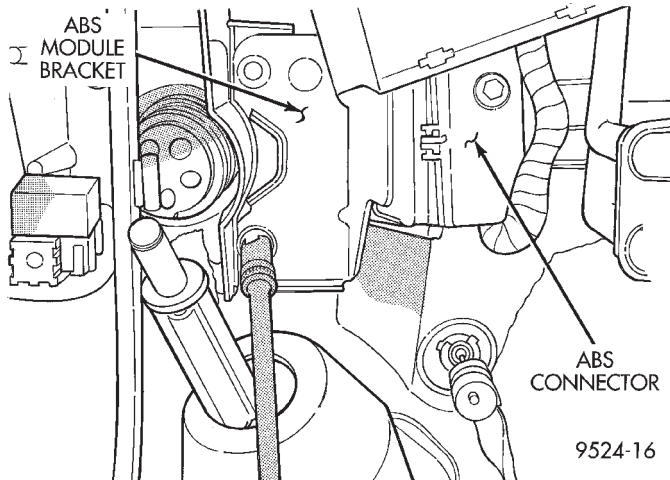

Fig. 40 ABS Control Module
(1) Remove the lower left side steering column cover. Refer to Group 8E, Instrument Panel and Systems.
(2) Remove ABS control module (Fig. 40).